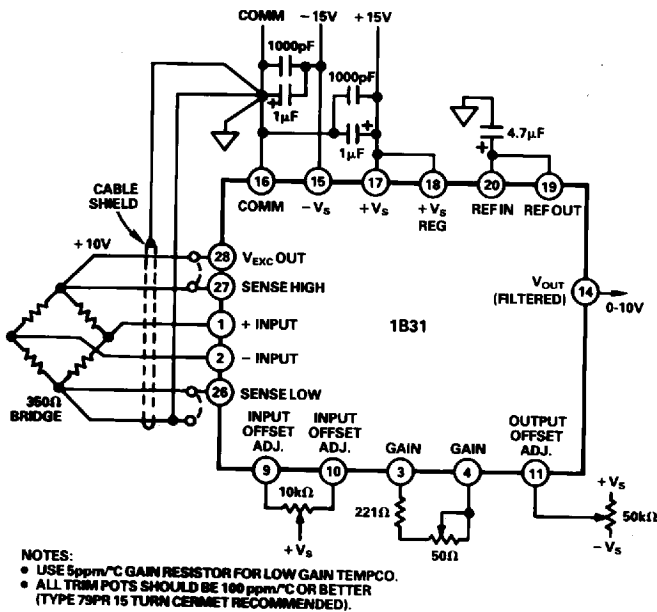

Figure 2. Typical Application
where RG is connected between the GAIN terminals (Pins 3 and 4) of the 1B31, as shown in Figure 2. For best performance, a low temperature coefficient (5ppm/°C) RG is recommended. For fine span adjustment, a 50Ω potentiometer may be connected in series with RG.
**Input Offset Adjustment:** To null input offset voltage, an optional 10kΩ potentiometer may be connected across the INPUT OFFSET ADJ. terminals (Pins 9 and 10 in Figure 2). With gain set at the desired value, connect both inputs (Pins 1 and 2) to COMMON (Pin 16), and adjust the 10kΩ potentiometer for zero volts at Pin 14. For applications using software nulling, Pins 9 and 10 should be left unconnected.
**Output Offset Adjustment:** The output can be offset over the ±10V range to compensate for dead load or bridge imbalance by using a 50kΩ potentiometer connected to Pin 11 as shown in Figure 2. Pin 11 is normally grounded if output offsetting is not desired.
The remote sensing inputs should be connected to the transducer separately from the excitation leads or jumpered as shown in Figure 2.
**Power Supply Decoupling:** The power supplies should be decoupled with 1μF tantalum and 1000pF ceramic capacitors as close to the 1B31 as possible (Figure 2).